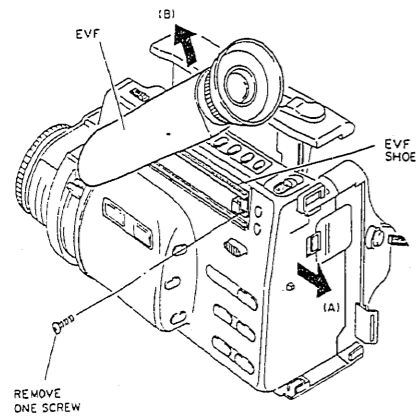
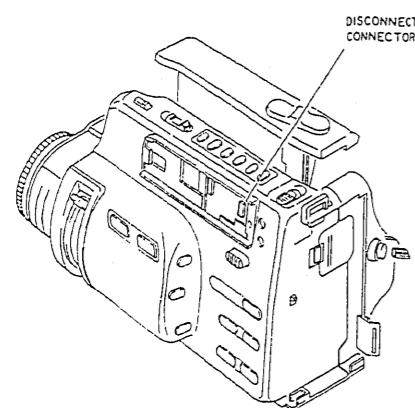

Fig. 3-1
Fig. 3-2
- (1) Move the EVF in the direction of arrow (A). (See Fig. 3-1)
- (2) Turn the EVF in the direction of arrow (B).
- (3) Remove one (1) screw and remove the EVF shoe in the direction of arrow (A).
- (4) Disconnect connector CN801. (See Fig. 3-2)